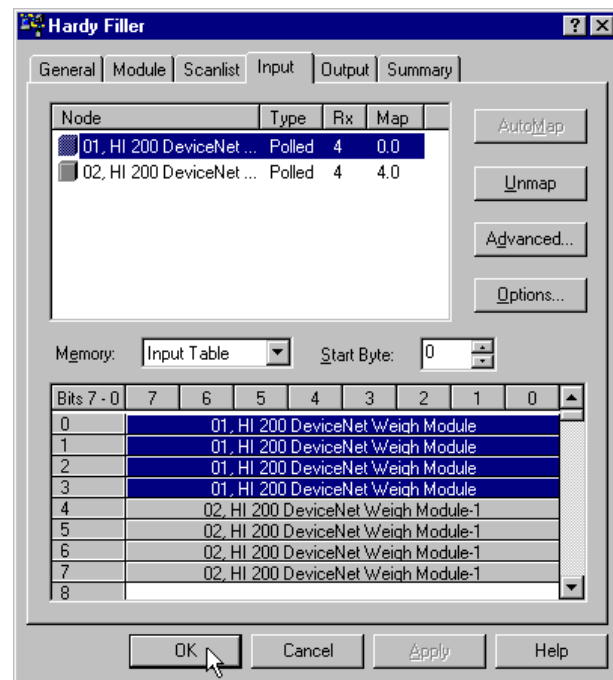

FIG. 130: INPUT PAGE/CHANGE PARAMETERS
Step 7. Click on the Input Tab. The Input page appears. (See Fig. 130)